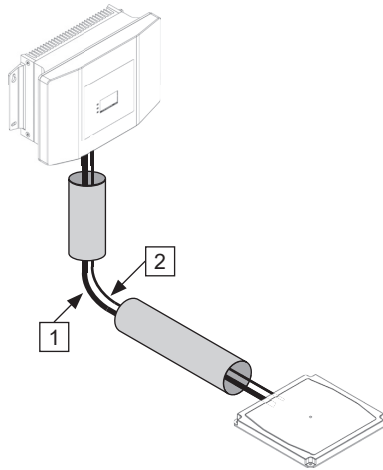

Fig. 23: Joint laying of power and data cables
- Power and data cables can be laid together. Fig. 23